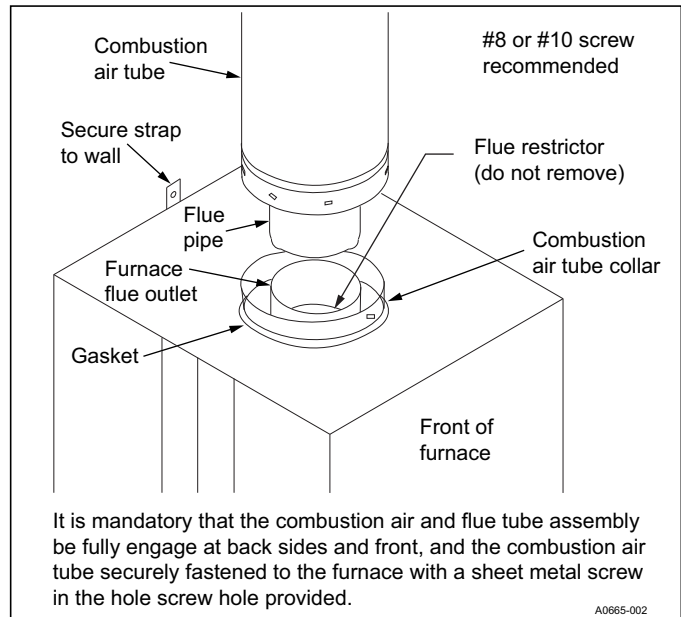

Figure 25: Connecting roof jack to furnace
2. Pull the roof jack's telescoping section down onto furnace. Fully engage the roof jack onto vent connector and air-intake connector and compress gasket. See Figure 25. Refer to *Interior roof jack extension* installation instructions, if applicable.
2. Pull the telescoping flue tube and combustion air tube assembly down from the roof jack. Slide the flue tube/combustion air tube assembly down firmly over the furnace flue outlet and combustion air collar. Insure that the back, side and front of combustion air tube collar is fully engaged and is in contact with gasket. Fasten the combustion air tube to the furnace combustion air collar using a 1/2 in. sheet metal screw. A screw hole is provided in combustion air tube and furnace combustion air collar. See Figure 25.